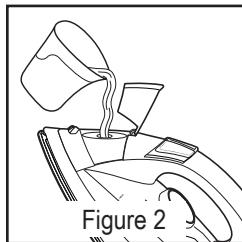

Figure 2
3. Set iron in the position indicated below (figure 2) and fill it with water, no higher than the Max fill level shown on see-through water window.